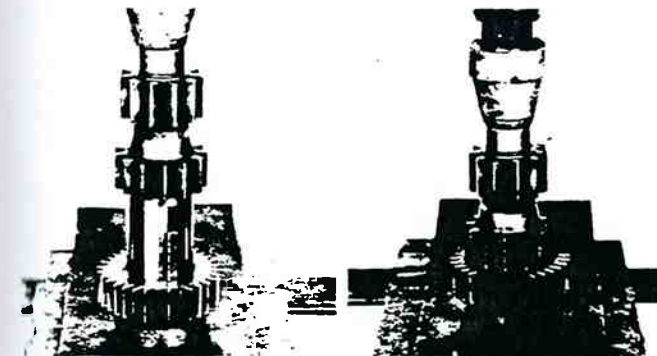

Figure 13-90. 2nd Speed Gear Installation.
4. Align keyway in gear with keys in shaft and press the 2nd speed gear on shaft, long hub toward front of shaft (figure 13-90).